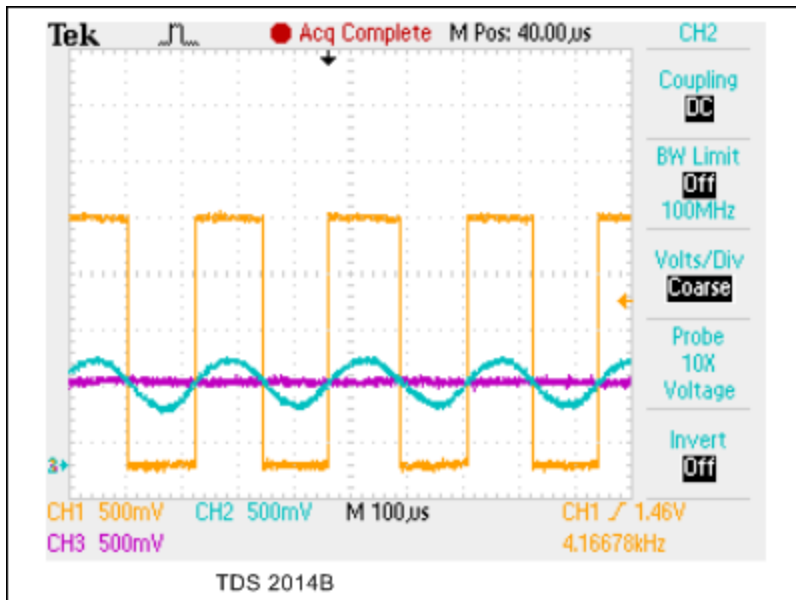
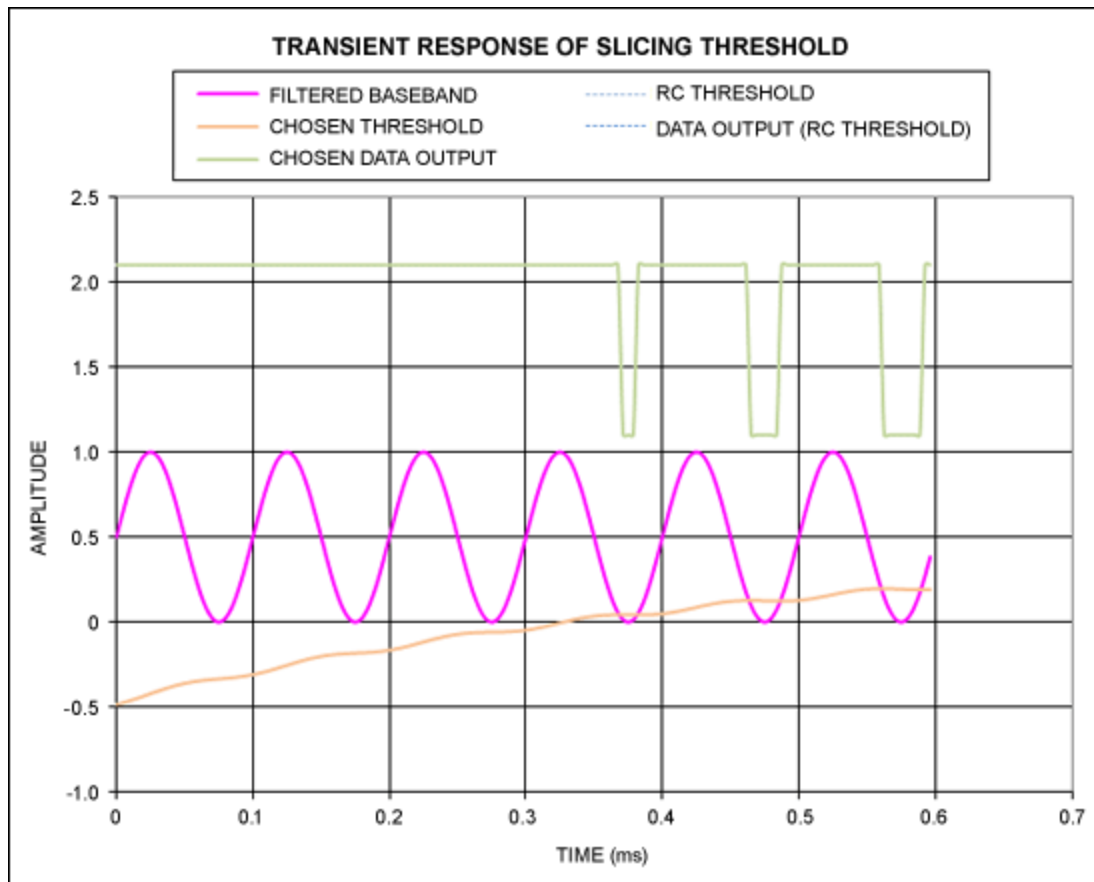

Figure 2. Oscilloscope plot of data slicer.
Figure 3. Simulation of a data slicer.
Simulated versions of the baseband circuit can be used to show various responses of the system. When a simple resistive-capacitive (RC) slicer level is implemented, there are a few limitations that will impact the accuracy of the output data (Figure 2 and Figure 3).